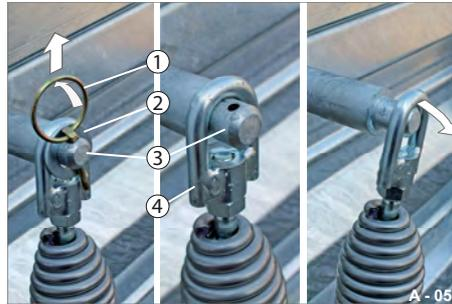

Fig. 31 Platform gate lifting spring released
- ▶ Fold the ring of the locking pin (Fig. 31/1) up and pull it out of the bolt (Fig. 31/3).
- ▶ Remove the washer (Fig. 31/2).